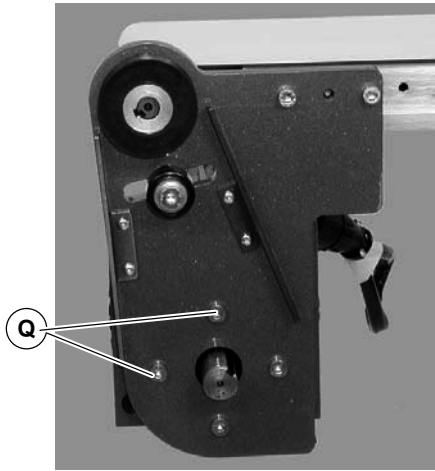

Figure 20
7. Remove four (4) gearmotor mounting screws (Q of Figure 20). Remove gearmotor with adapter plate.
9. Install new gearmotor to adapter plate and mounting bracket. Tighten screws (Q of Figure 20) to 103 in-lb (12 Nm).